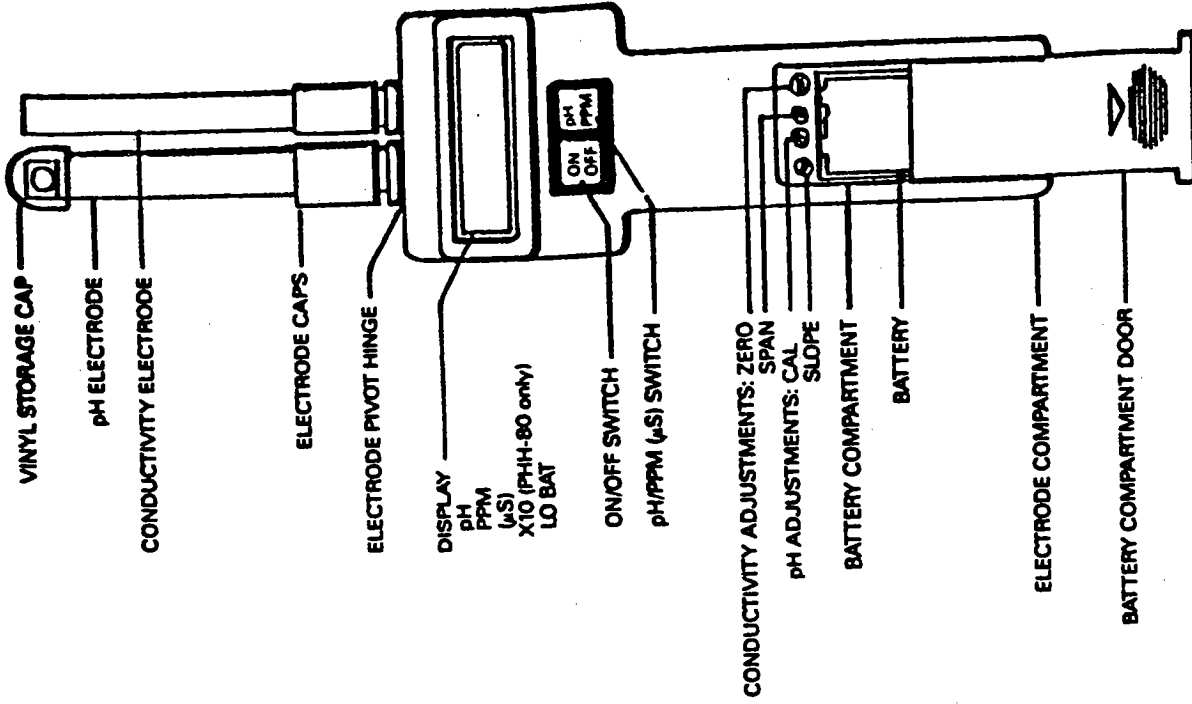

Figure 1 PHH-60/80
1. Slide back electrode compartment to release pH and conductivity electrodes. Refer to Figure 1.